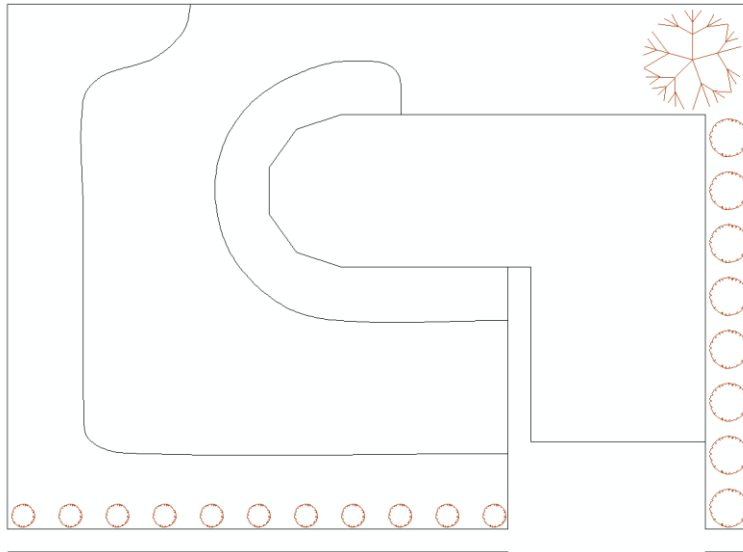

Figure 4-69
23. Place some **BROWN SHRUB** symbols **3ft (1m)** in size (*Draw|Symbol*), as described above, along the garden boundary parallel with the sidewalk. See Figure 4-69.